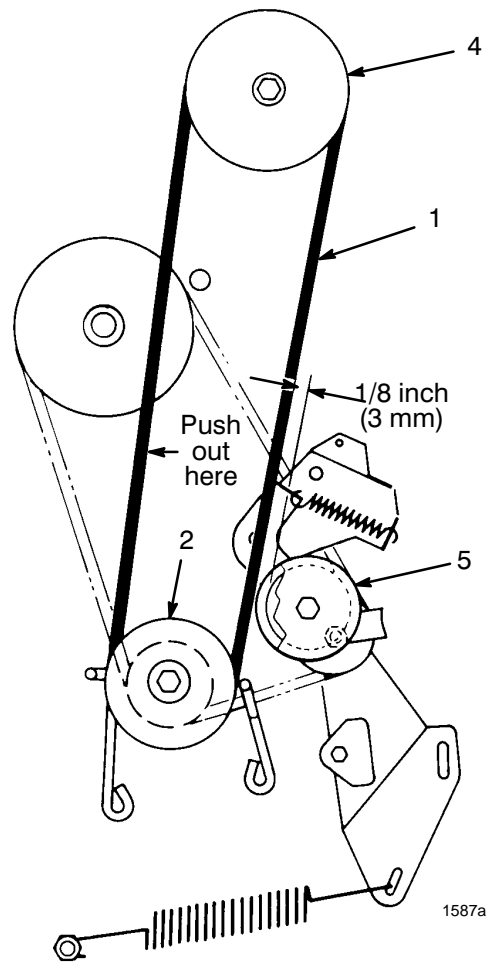

Figure 19
7. Loosen the capscrews securing (2) engine pulley belt guides and move guides away from pulley. Remove the deck drive belt from engine pulley (Fig. 19).
9. Remove (2) screws securing belt guide to mower housing and remove belt guide. Remove belt from pulley.
12. Pushing out on belt (removing slack), as shown in fig. 19, check clearance between outside of belt and inside of idler pulley (Fig. 19). Clearance should be approximately 1/8 inch (3 mm).